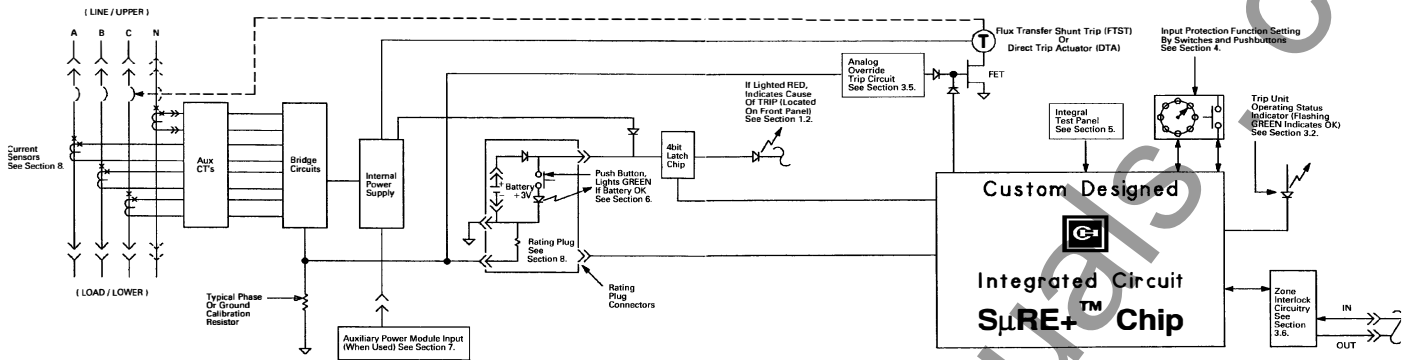

Fig. 3 Digitrip RMS 510 Block Diagram with Breaker Interface
The trip unit employs the Cutler-Hammer Inc. custom designed integrated circuit SμRE + chip, which includes a microcomputer to perform its numeric and logic functions. The principle of operation is described by the block diagram shown in Fig. 3.
The LEDs, shown in Figs. 1 and 2.1-2.6, on the face of the trip unit, light “RED” to indicate the reason for any automatic trip operation. As indicated in Figs. 2.1-2.6, each LED is strategically located in the related segment of the time-current curve depicted on the face of the trip unit. The reason for trip is identified by the segment of the time-current curve where the LED is lighted “RED”. Following an automatic trip operation, the back-up battery, continues to supply power to the LEDs as indicated in Figs. 3 and 6. To check the status of the battery, see Section 6.
Zone Selective Interlocking (or Zone Interlocking) is available (see Fig. 3) for Digitrip RMS Trip Units having Short Delay and/or Ground Fault protection. Zone Selective Interlocking provides the fastest possible tripping for faults within the breaker’s zone of protection, and yet also provides positive coordination among all breakers in the system (mains, ties, feeders and downstream breakers) to limit the outage to the affected part of the system only. When Zone Interlocking is enabled, a fault within the breaker’s zone of protection will cause the RMS DIGITRIP trip unit to:
- 2) There is a condition under which the Long Delay Trip LED can erroneously indicate a LDT has occurred, even though the breaker is still closed. This can happen when an overload current momentarily exceeds the Long Delay Current Setting,  $I_r$ , so that the Long Delay LED flashes "RED" to indicate the overload condition. Then if, at the very moment when the LED is "ON", the load current would then suddenly drop to a value less than 10% of the breaker frame (or current sensor) rating, the trip unit stops functioning while the "4bit Latch Chip" (See Fig. 3) is set and the LED remains Lighted. If the current would again increase to a value above the Long Delay Current Setting,  $I_r$ , and then return to normal, the